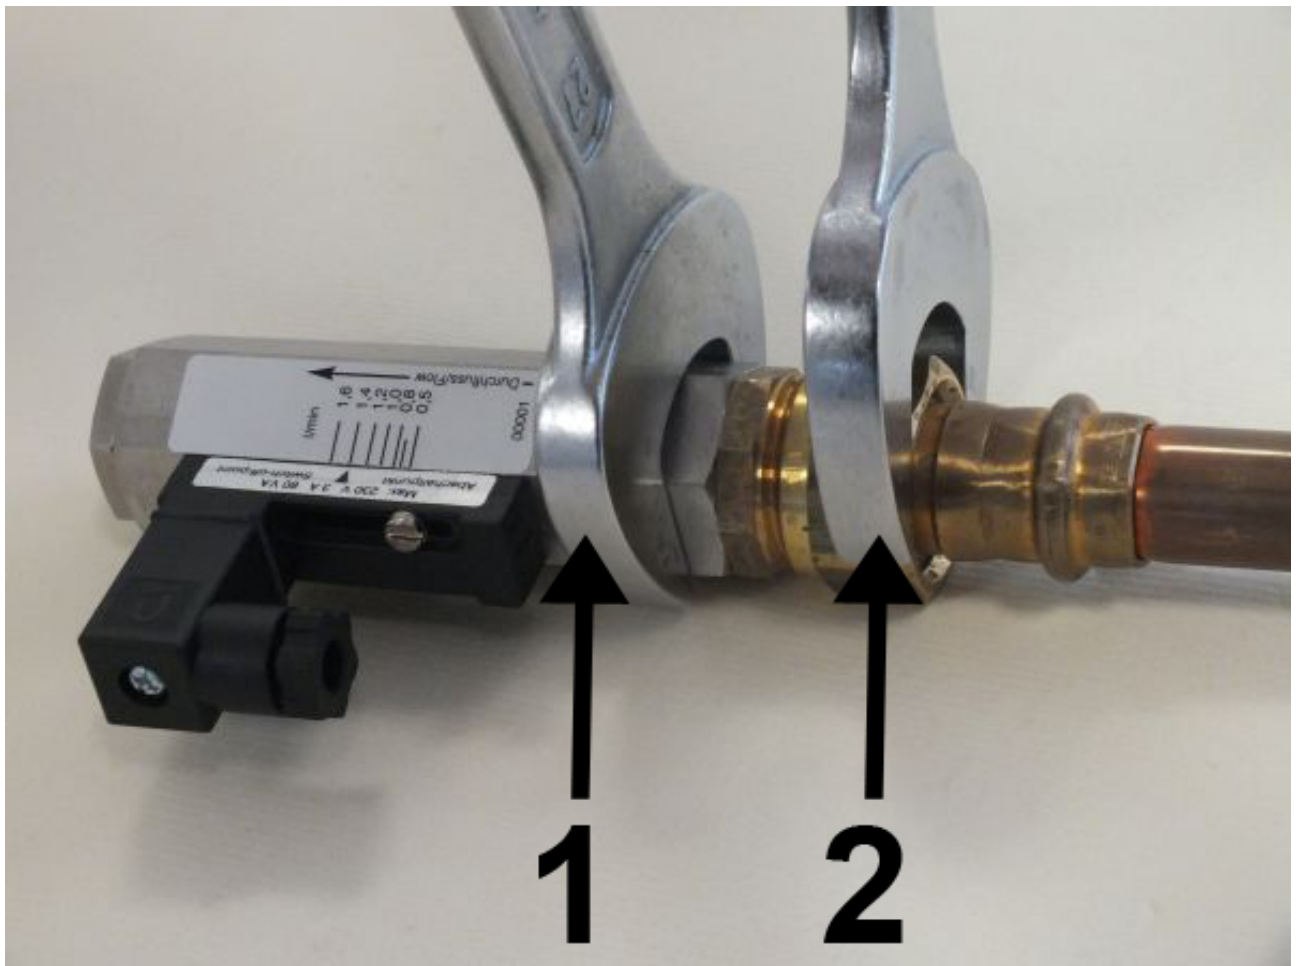

Fig. 11: Screw in the device
2. ➡ Fasten the adapter union of the pipeline with an appropriate spanner (Fig. 11/2). When doing so, lock the process connector in place to prevent slip, using a suitable spanner (Fig. 11/1).